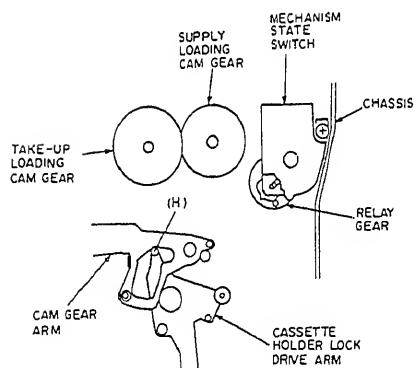

Fig. 3-3
2. Align hole (D) in the relay gear and hole in the chassis.
3. Move the cassette holder lock drive arm so that the pin comes into connect with section (H) of the cam gear arm. Reinstall the driving gear following the procedure below in this condition. (See Fig. 3-3)